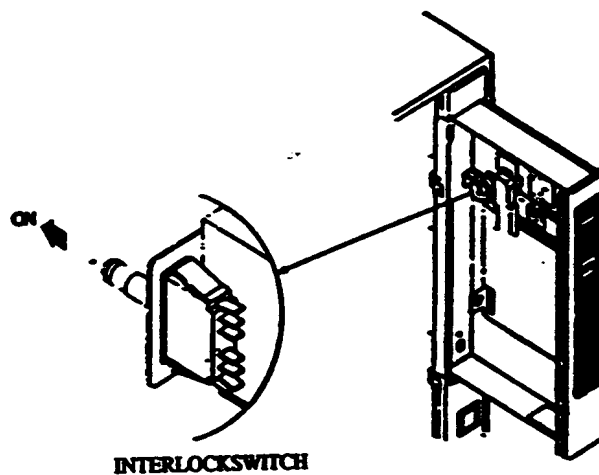

FIGURE 4
- * Check to ensure that power is present. Remember when you pull out the sliding drawer, the safety interlock will shut off the power to the control board. To re-energize the control board, pull the plunger out on the safety interlock switch located at the back of the pull out drawer. For the location of safety interlock (See figure 4 on page 9).
- * Operate each dispenser, using coins. Operation should be smooth. Remember; the safety interlock must be energized in order to test out the changer. To energize, pull out the plunger on the safety interlock switch located at the back of the pull out drawer (See figure 4 on page 9).
Note: The safety interlock switch that turns on the power to the drawer is located in the rear, as shown in figure 4.